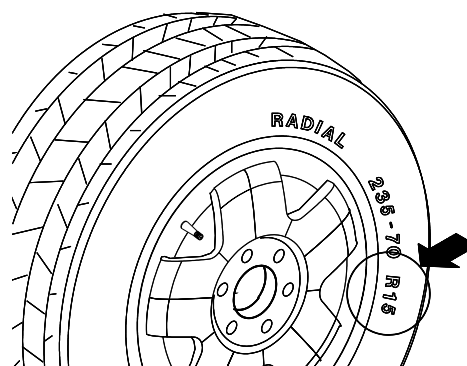

Figure 24
4.5.2.3 Manual Rim Diameter Entry - Select the Manual Parameter button. Read the rim diameter marked on the sidewall of the tire (Figure 24). Enter the measured rim diameter by pressing the **Parameter** button followed by the **UP** or **Down** arrow button until the desired value appears in the right display.